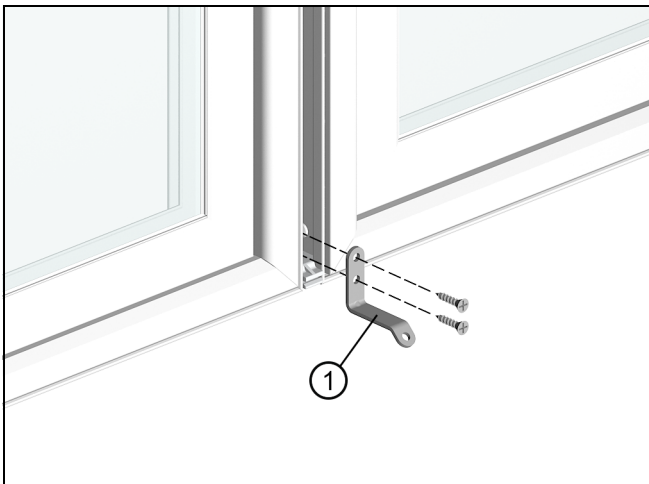

Figure 11
2. Place a mull bracket at the sill end of the aluminum mull tie and attach with #7 x 5/8"(16) flat head screws. Using the hole on the angled portion of the bracket as a guide, drill a 3/16"(5) hole through the mull plug and mull bracket. See Figure 11.